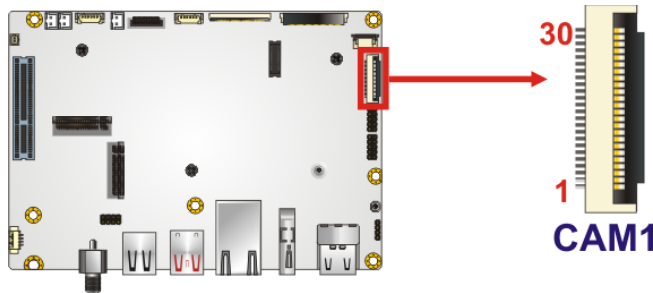

Figure 3-9: MIPI CSI Connector Location
- CN Location:** See **Figure 3-9**